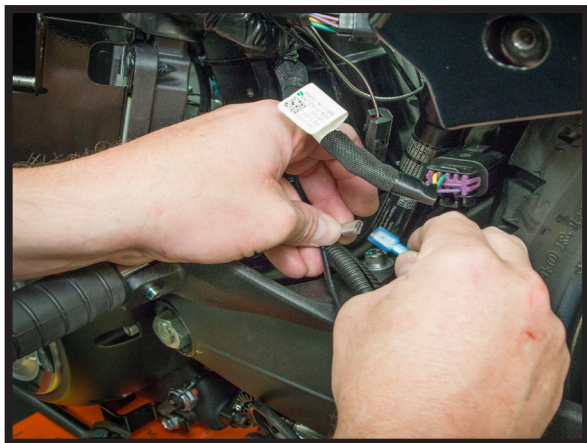

FIGURE 30
13. COVER THE PUMP WIRES AND HOSE WITH THE SPLIT LOOM UNTIL YOU REACH THE END OF THE RED PUMP WIRE. AT THIS POINT, FOLLOW THE WIRING DIAGRAM AT THE END OF THIS MANUAL AND PLUG THE SINGLE RED RELAY WIRE INTO THE RED PUMP WIRE. ALSO AT THIS POINT, PULL THE HOSE OUT OF THE LOOM. (FIGURES 30, 31)